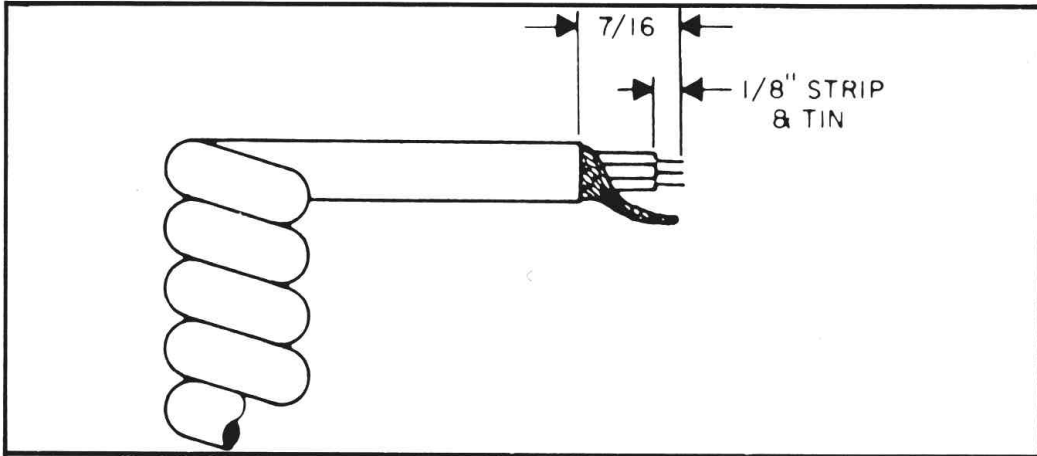

Fig. 1. Microphone cable preparation.
1. The leads should be cut so that they extend 7/16" beyond the plastic insulating jacket of the microphone cable. See Fig. 1 below.